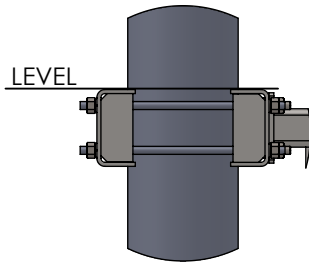

Fig.1
- +The front and back clamp should be level with each other. **See Fig.1**